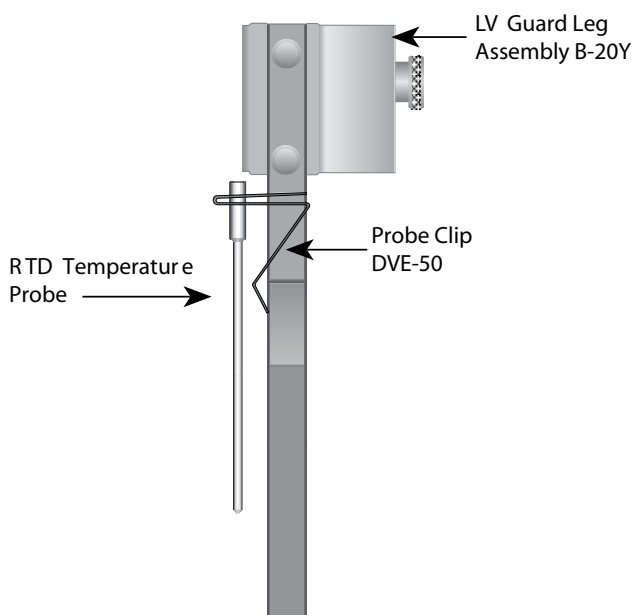

Figure J2
- ✓ Press ENTER/AUTORANGE key and Figure J2 appears.